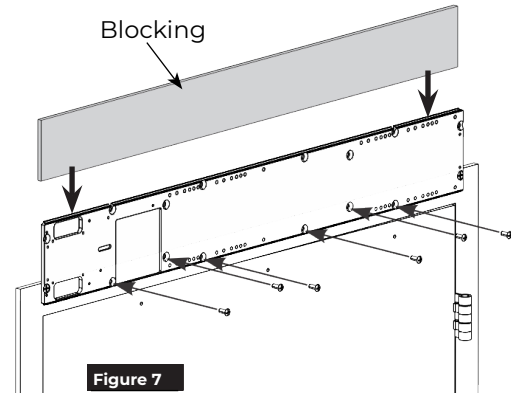

Figure 7
1/4 x 1-1/2" self-drilling screws. (Figure 7)
**NOTE:** It is important to properly secure top edge of backplate. Use of blocking (supplied by others) or shims (provided) to fill gap between backplate and wall above header is **HIGHLY** recommended. Material must comply with local codes. Failure to properly secure top of backplate could result in operator being allowed to 'rock' during operation. This could result in damage to operator and diminish operator function. (Figure 7)